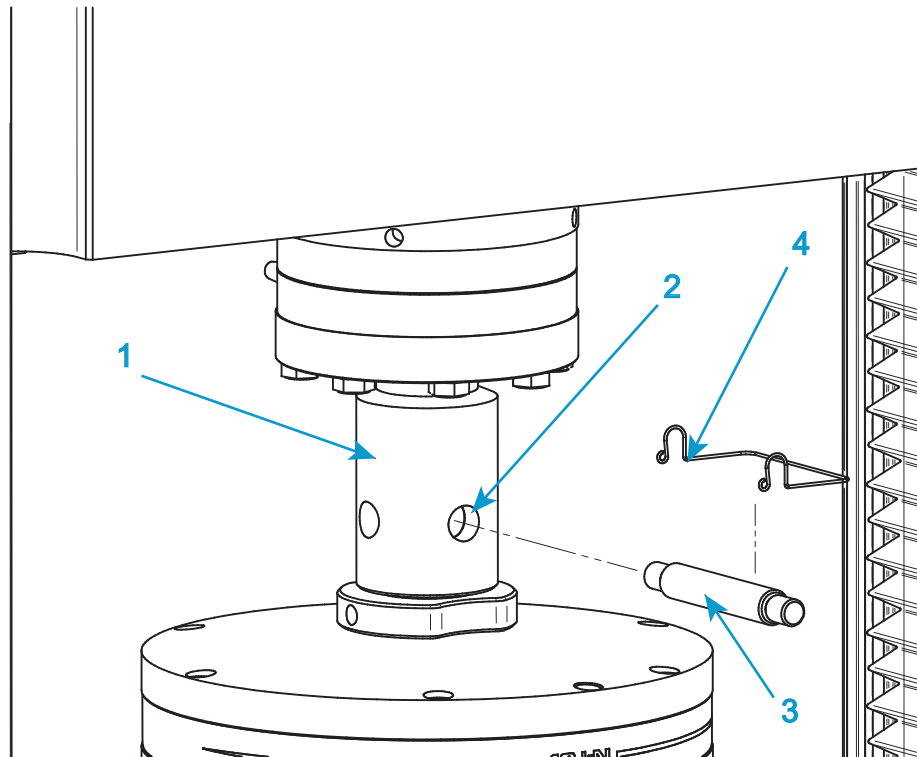

Figure 28. Typical grip installation
Refer to Figure 28 on page 99 when following this procedure.
1. For the upper grip, insert the adapter on the grip into the female clevis socket (1 in Figure 28) on the load cell adapter.
2. Align the clevis holes (2 in Figure 28) and insert the clevis pin (3 in Figure 28) through the holes.
3. Secure the clevis pin in position with the clevis pin clip (4 in Figure 28).